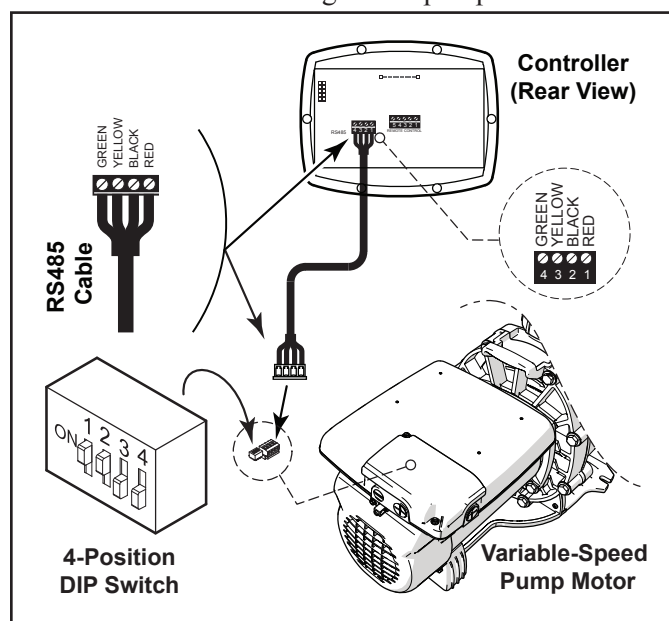

Figure 4. Wiring the Controller to the Variable Speed Pump
6. Attach the four (4) wires in the RS-485 cable to the RS-485 connector. Make sure the colors match the positions on the connector. See *"Figure 4. Wiring the Controller to the Variable Speed Pump"*
8. Set the DIP switch settings for the pump controller with the 1 and 2 in the ON position and 3 and 4 in the OFF position. See *"Figure 4. Wiring the Controller to the Variable Speed Pump"*.
For the ePump™, the VS-FHP2.0 pump and the VSPHP27, the 4-position or 5-position dip switch is located at the rear of the pump, as shown in *"Figure 4. Wiring the Controller to the Variable Speed Pump"*